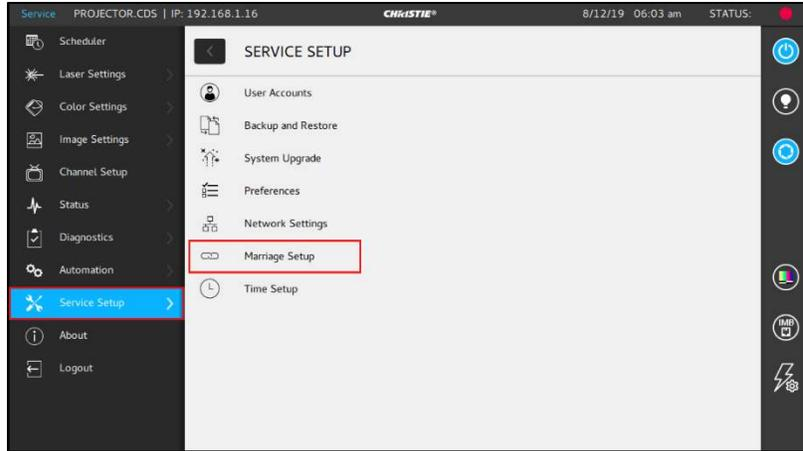

Figure 28: Marriage Setup
4. Once logged in, go to **Service Setup** → **Marriage Setup** (as shown in **Figure 28**).